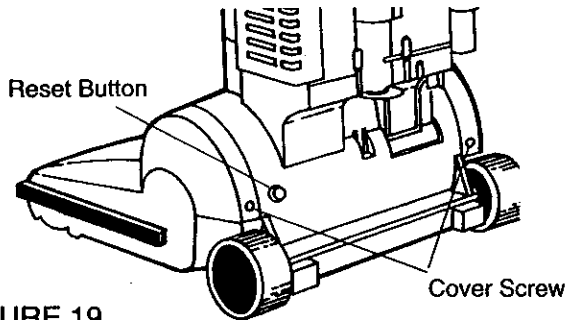

FIGURE 19
Before the machine can be switched on again, the Reset Button must be pressed in. (Figure 19)
- Press the Reset Button if the Overload Protection System has again shut the machine down. (Figure 19)
- Press the Reset Button if the Overload Protection System has shut the machine down. (Figure 19)
- Press the Reset Button if the Overload Protection System has once again shut the machine down. (Figure 19)
- Unscrew the two screws which are located at the rear of the Lower Base Cover. (See Figure 19)
- Replace the Lower Base Cover, and fasten the two cover screws. (Figure 19 on page 7) Do not over tighten.
- Replace the Lower Base Cover and fasten the two cover screws. (Figure 19 on page 7) Do not over tighten.